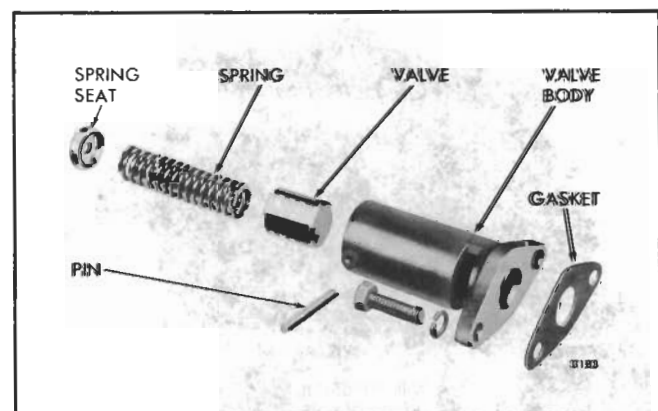

Fig. 3 - Oil Pressure Regulator Valve and Relief Valve Details and Relative Location of Parts (16V Engine)
3. Remove the spring seat, spring and valve from the valve body (Fig. 3).